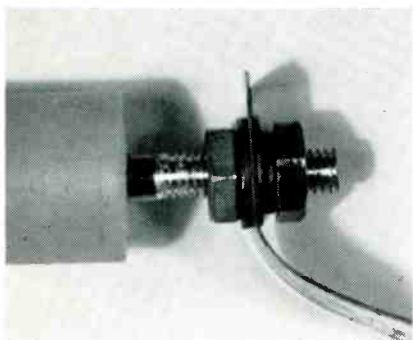

Fig. 1. Threaded inner conductor terminated with nuts and conducting strap.
Fig. 1. Two methods of mounting remote pickup antennas on insulated AM towers. Method (A) is used for powers over 1 kw. Method (B) is used for powers under 1 kw, where tuned circuits can be employed for isolation.
The WINC base antenna is a converted 12-element amateur 2-meter yagi, mounted on a rotator and installed atop a telephone pole. Many stations use nondirectional collinear antennas mounted on the side of the broadcast tower, isolated for the broadcast frequency by one of the methods illustrated in Fig. 1.
There are several ways to terminate the inner conductor and the braid without use of connectors. One method is to expose about 1½" of the center conductor, and thread about ¾" with a number-10 or a 3/16" die, as shown in Fig. 1.